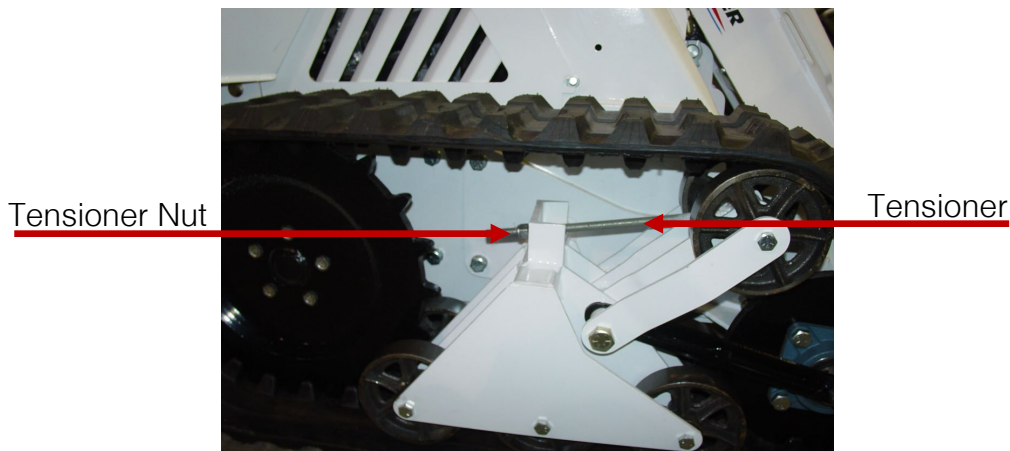

Figure 28 - 1350 Track Assembly
b) Loosen all four 5/8 bolts in Figure 28.
c) Chain adjustment can then take place by using the two 3/8 bolts in Figure 28 which will slide the axle assembly to the desired position. The chain should have **no more than .250** of slack at all time. Track tension can be checked by removing the foot plate.